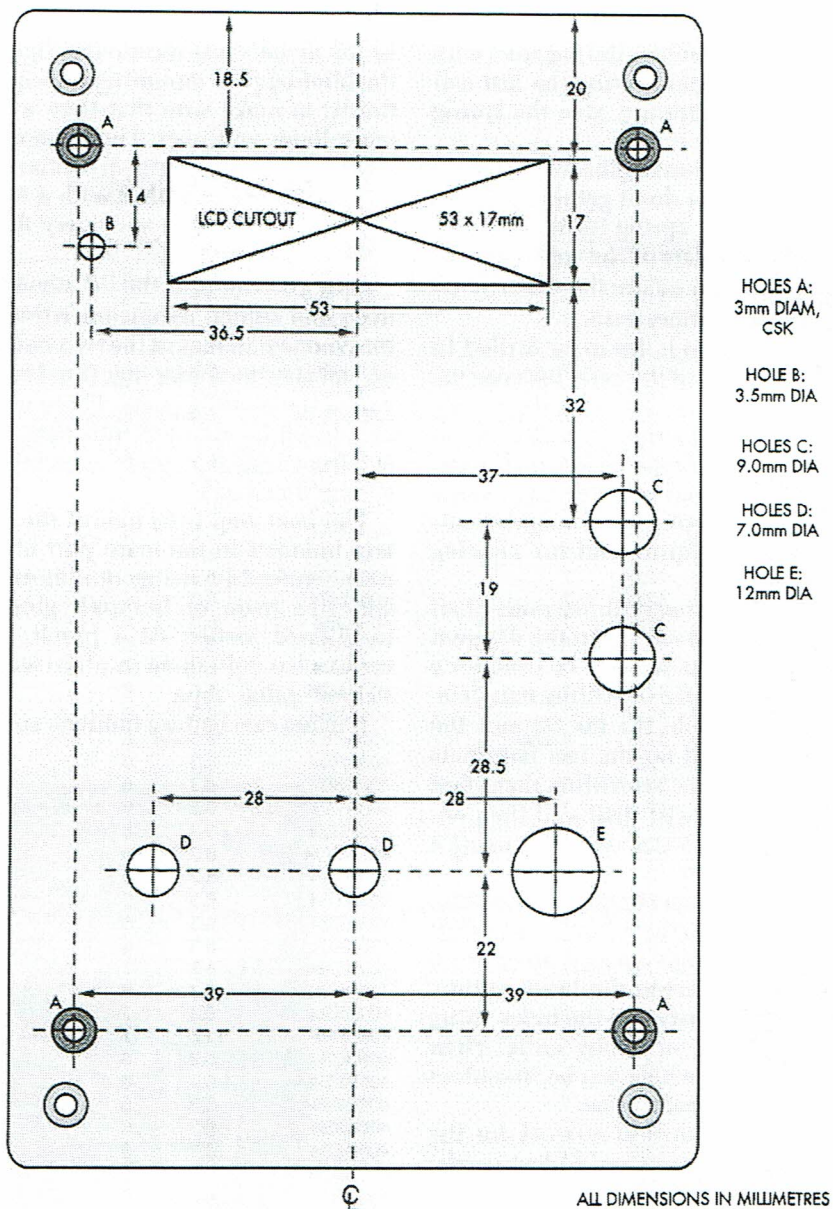

Fig.6: drilling and cutout detail for the lid of the UB-1 Jiffy Box, from which hangs the PC board containing everything but the battery holder.
The location and dimensions of all these holes are shown in the diagram of Fig.6, which can also be used (or a photocopy of it) as a drilling template. The 12mm hole (E) for S2 and the 9mm holes (C) for the test terminals are easily made by drilling them first with a 7mm twist drill and then enlarging them to size carefully using a tapered reamer.